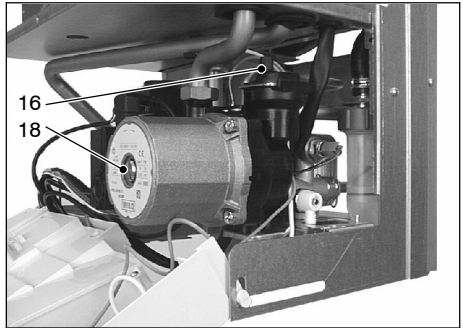

Fig. 7.2
- 3 Unscrew the cap on the automatic air purger valve 16 (Fig. 7.2) one full turn and leave open permanently.
- 6 Purge the air from the pump by unscrewing the pump plug 18 (Fig. 7.2); release the pump shaft by turning in the direction indicated by the arrow on the information plate.